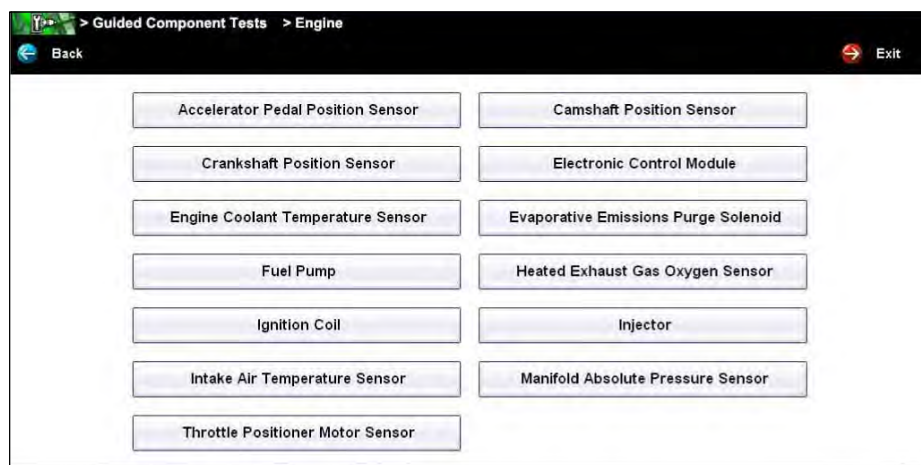

Figure 7-5 Sample available component tests list
- 8. Select **ENGINE** and a component test menu displays (Figure 7-5).